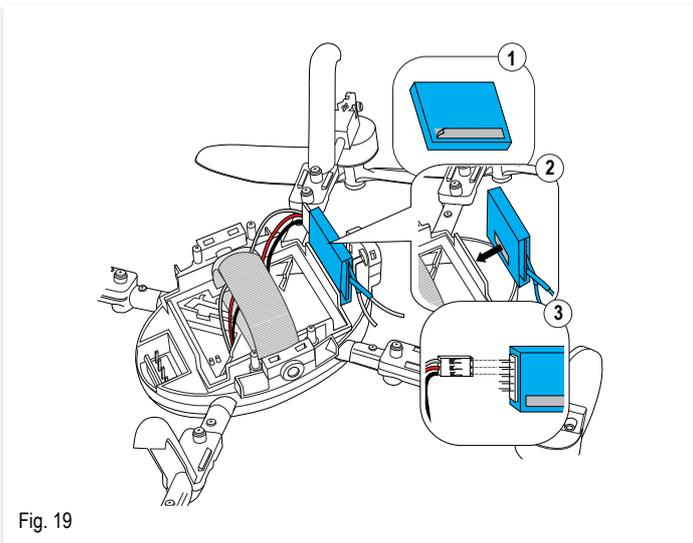

Fig. 19
3. Install your PPM RECEIVER with double sided tape between the battery tray and front orientation LED. See [\[Fig. 19\]](#).